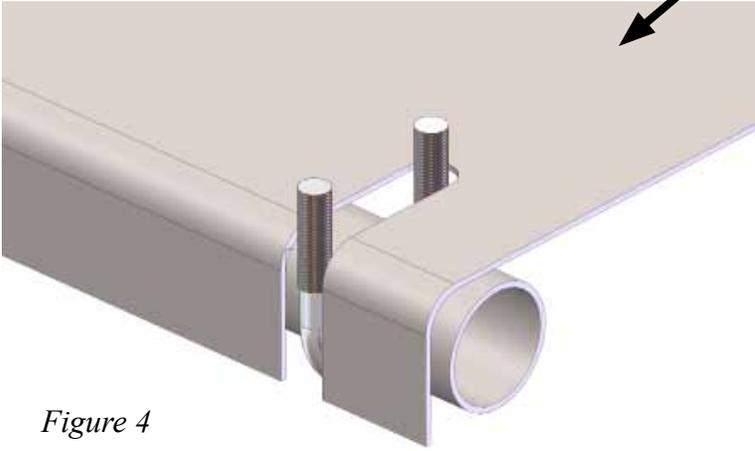

Figure 4
3. Using a 1/2" bit, drill out the marked holes from your mount plate. An alternate way is to cut out the outside holes to fit your U-Bolts. Shown in Figures 4 & 5.
4. Hang the four U-Bolts over the frame tubing using either variation. Shown in Figures 4 & 5.